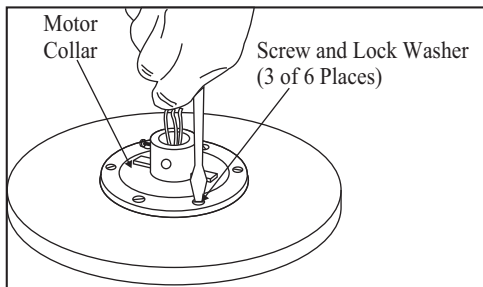

Figure 9
4. Remove three of the six screws and lock washers (every other one) securing the reinforcing plate to the top of the fan motor housing (Figure 9).